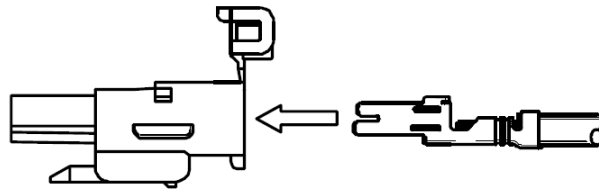

FIGURE 2-32
- d. Refer to **Figure 2-32**. Insert the crimped wire into the receptacle housing 42816-0212.